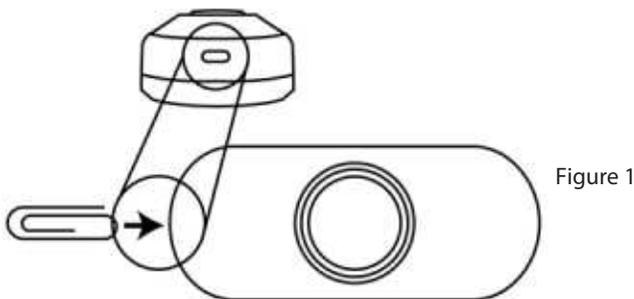

Figure 1
1. Open the front cover by inserting the included screwdriver into the square hole on the bottom of the unit (figure 1) & gently push & then separate the top & bottom halves of the case.
1. Open the front cover by inserting the included screwdriver into the square hole on the bottom of the unit (figure 1 above) & gently push in to separate the top & bottom half of the case.
6. Place top half (with battery installed) over bottom half. Make sure the small opening (see figure 1 above)on top half is pointing down. Place bottom of the top half over the small protruding clip on bottom half & snap into place.